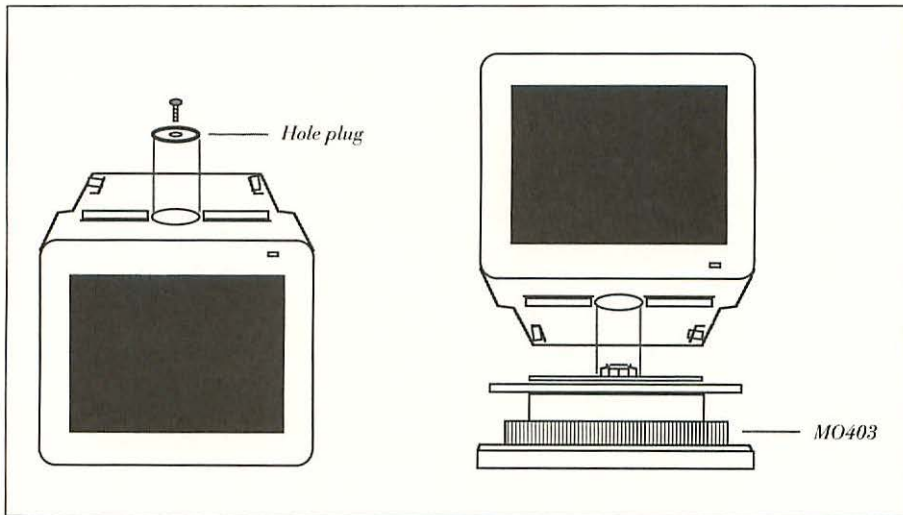

Figure 3-38 To prepare an Apple monitor for use with an Apple Universal Monitor Stand (MO403), unscrew the hole plug using a Phillips-head screwdriver.
3. Unscrew the hole plug using a Phillips-head screwdriver as shown in Figure 3-38.